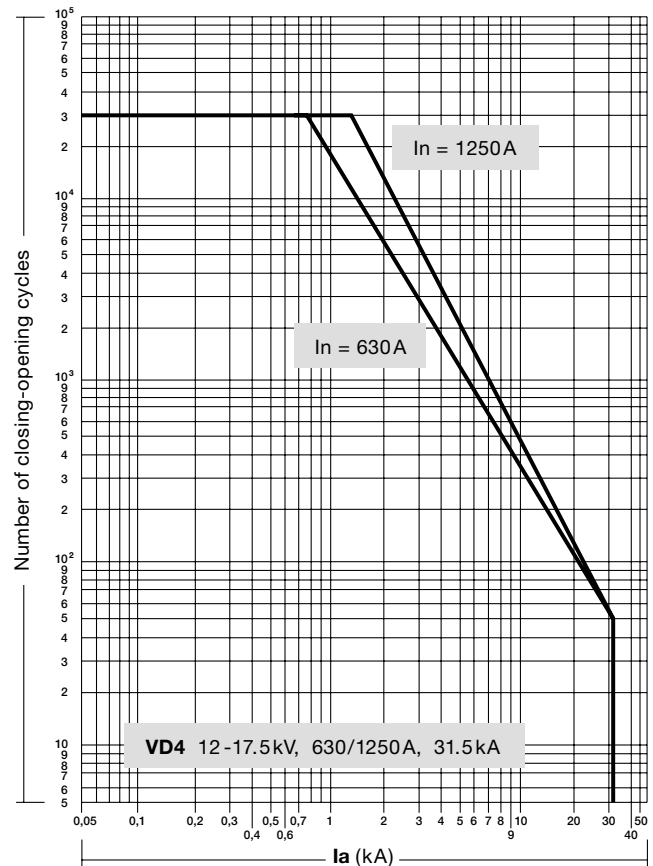

Figure 5. VD4-LMT trip curves
- Vacuum interrupters: Up to 30,000 operations under normal service conditions and according to the type of interrupter (see fig. 5).